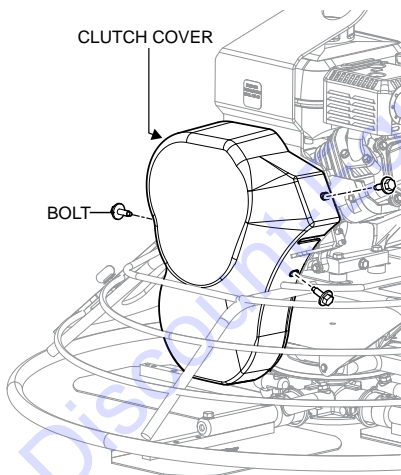

Figure 14. Clutch Cover Removal
4. Using a 7/16" wrench remove the three 1/4" retaining bolts (Figure 14) that secure the clutch cover to the frame.